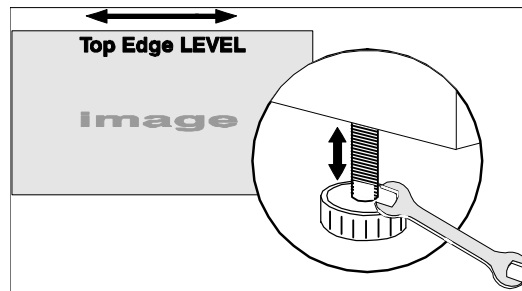

Figure 3-35 Level the Top Edge
4. **RE-CHECK SIDE-TO-SIDE LEVELING:** With a good test pattern on screen, double-check projector leveling (refer to **Figure 3-4**) so that the top edge of the image is parallel to the top edge of the screen. Refer to **Figure 3-35**.